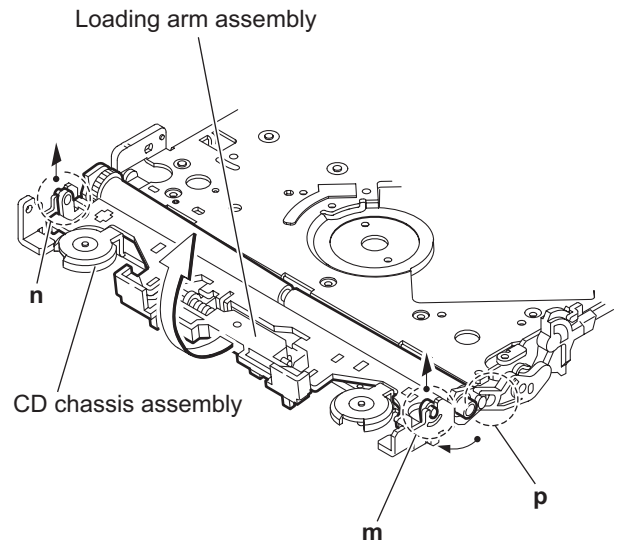

Fig.13
### 3.2.7 Removing the loading arm assembly (See Figs.13 and 14)
- From top side of the mechanism section, move the loading arm assembly in the direction of the arrow. (See Fig.13.)
- Release the projections from the right and left joints (**m**, **n**) of the CD chassis assembly. (See Figs.13 and 14.)
- Release the projection from notch **p** of the connect arm on the right side of the mechanism section and release the projection from notch **q** of the slide cam assembly on the left side. (See Figs.13 and 14.)